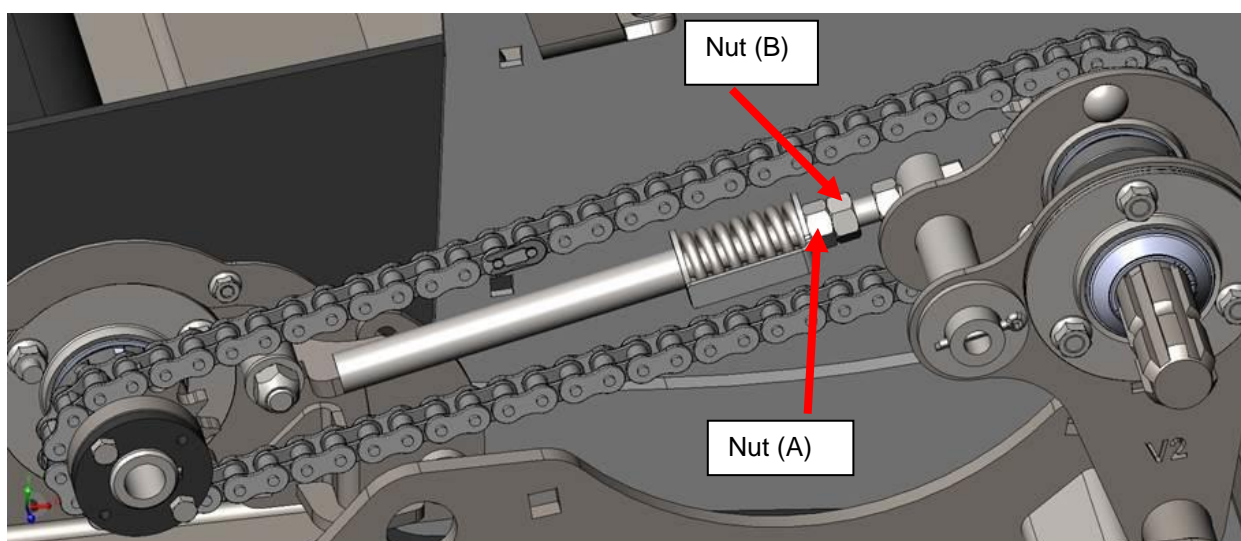

Figure 2
- Tighten nut (A), closest to the tension indicator, until the tip of the indicator is in alignment with the washer on the other end of the spring. This will compress the spring and adjust the chain to the proper tension.
- While holding nut (A) jam the second nut (B) against the nut (A). This will secure the compressed spring and tension indicator from moving. Figure 2